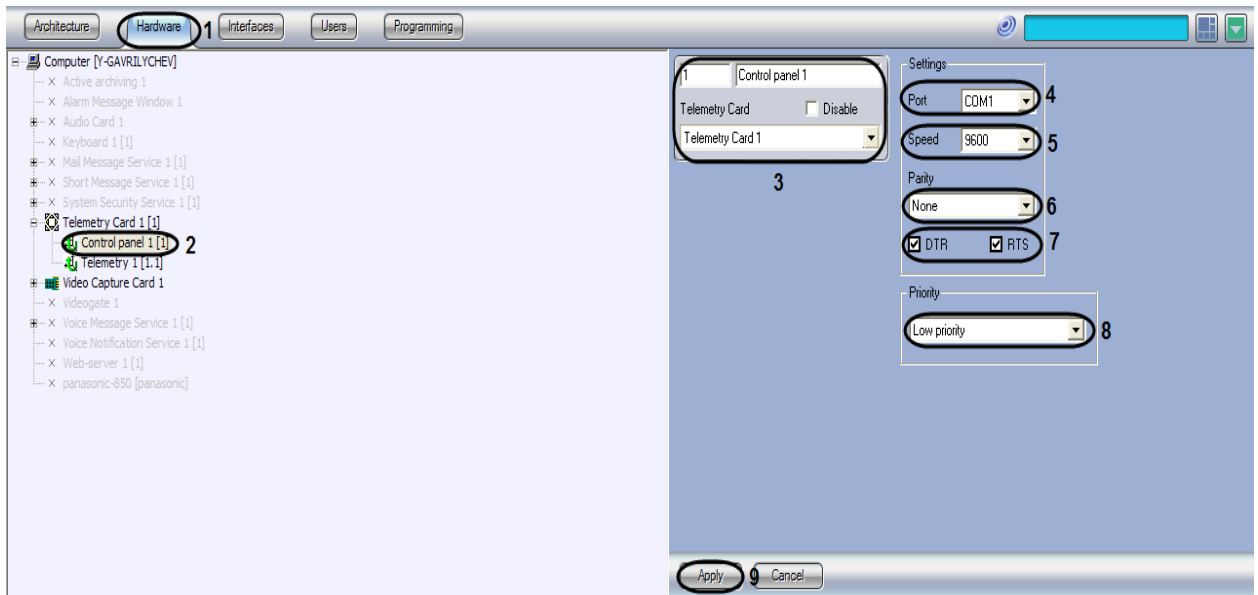

Figure 3.4-6 The setting panel of the Control panel object
1. Go to the **Hardware** tab in the **System settings** dialog box (Figure 3.4-6, 1).
2. Create the **Control panel** system object under the **Telemetry card** object or select the relevant object on the **Hardware** tab in the **System settings** dialog box (Figure 3.4-6, 2).
3. Enter the ID, the name of the **Telemetry** object and select the **Telemetry card** object to which the PTZ device is connected (Figure 3.4-6, 3).
4. Select the COM port number from the **Port** list in order to connect the **Control panel** device (Figure 3.4-6, 4).
5. If it is necessary enter the speed of data exchange between the computer and the **Telemetry control panel** device (Figure 3.4-6, 5).
6. If it is necessary enter parity check parameters for the data exchange (Figure 3.4-6, 6).
7. If the **Telemetry control panel** device is passive (i.e. with no independent power supply), the power supply must be activated via the DTR or RTS outputs of the COM port by setting the **DTR** or **RTS** check boxes (Figure 3.4-6, 7).
8. If it is necessary to change the PTZ device control priority for the **Telemetry control panel** device, select the relevant item from the **Priority** list (Figure 3.4-6, 8).
9. To save the changes click **Apply** (Figure 3.4-6, 9).